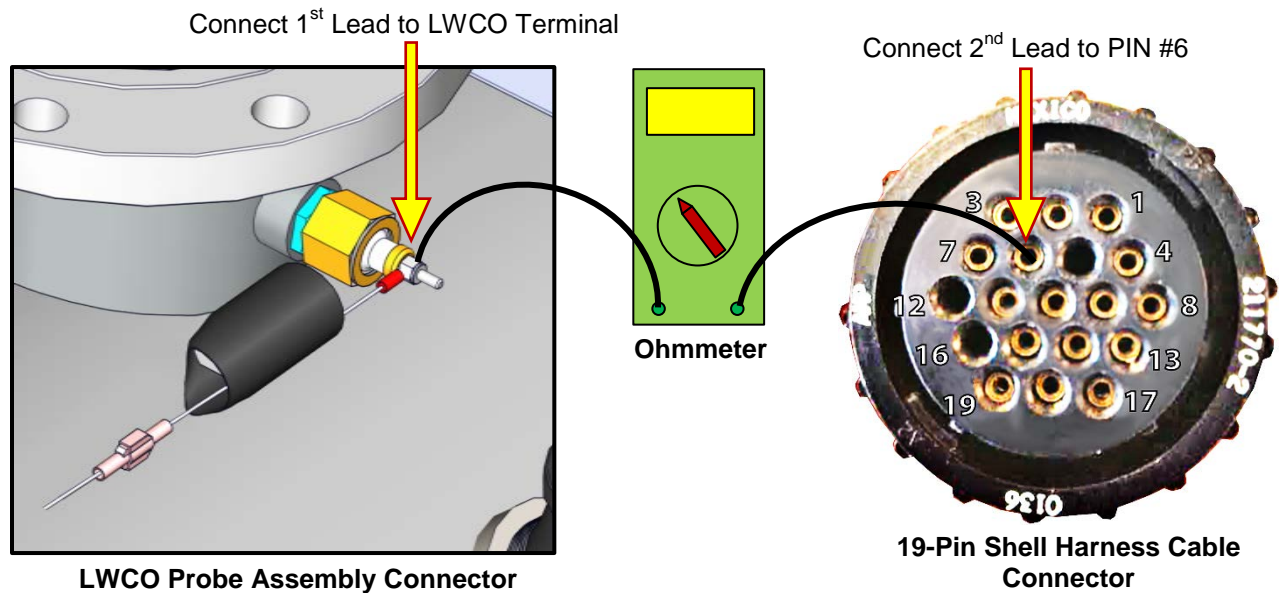

Figure 7-14: Connecting Ohmmeter between LWCO Probe & Shell Harness Cable
- Using an ohmmeter, connect one ohmmeter probe to the LWCO capacitor terminal on the unit shell as shown on left in Figure 7-14.
- Connect the second ohmmeter probe to Pin #6 of Shell Harness Connector (removed from the C-More controller) as shown on right in Figure 7-14.